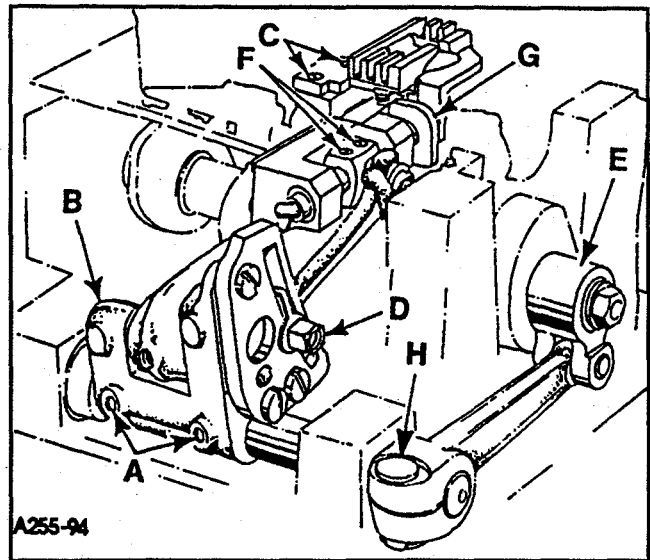

FIG. 12
To center main feed dog in throat plate slots, front to back or differential feed dog, left to right, loosen screws (A and H, Fig. 12), reposition feed rocker (B) slightly as required, retighten screws. Loosen screws (C) allowing main feed dog to be centered in throat plate slots left to right, retighten screws.
**NOTE:** Make sure that the feed crank link (E, Fig. 12) has adequate side shake to prevent a possible machine seizure.
The differential feed ratio is set by loosening slotted nut (D, Fig. 12) and moving the slotted nut with attached driving link upward to achieve an increase in the amount of differential feed travel. Moving it downward decreases the feed travel and achieves reverse differential at the bottom of its travel.